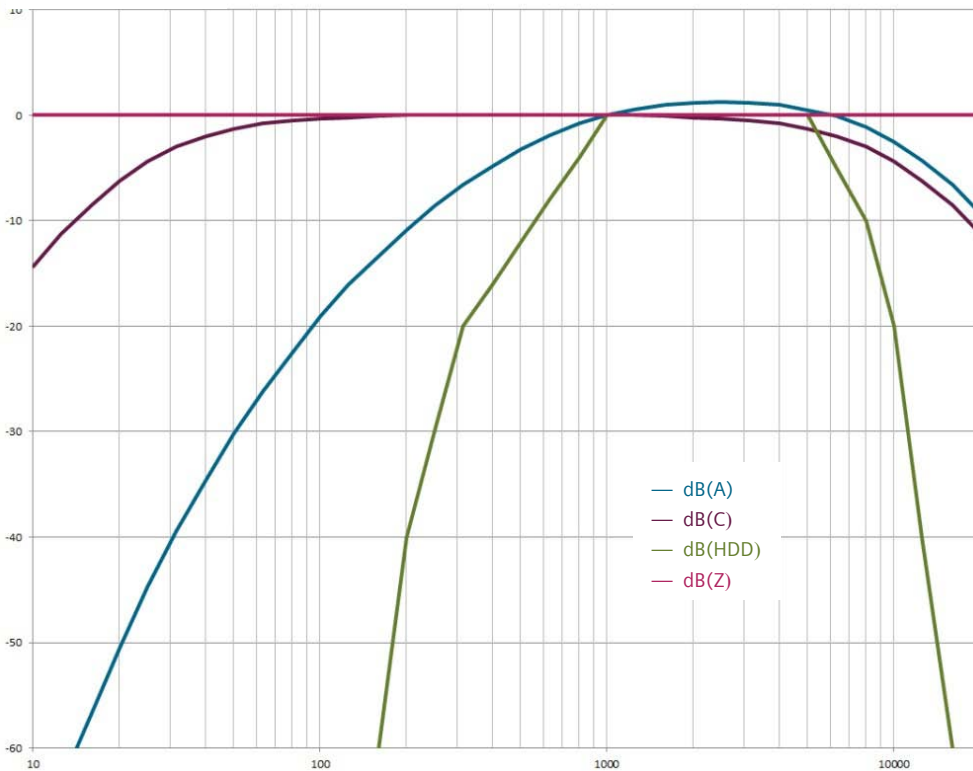

Figure 14: dB (A, C, "HDD," Z) evaluation curves
*) dB("HDD"): dB value with HDD sensitivity weighting as defined in Figure 14